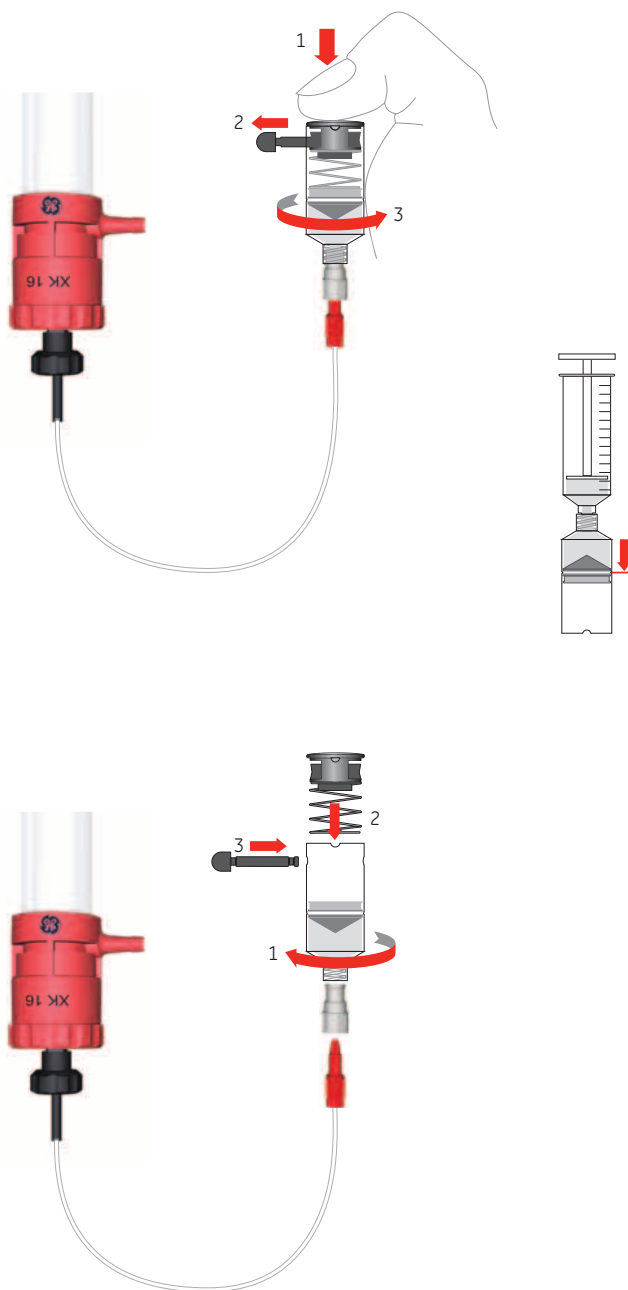

Fig. 2 Recommended procedure for use of storage/shipping device with HiLoad/XK columns.
- 1 Connect a syringe or a pump to the storage/shipping device and fill with 20% ethanol to a level over the mark on the tube, approximately 7 to 8 ml (Fig 2).